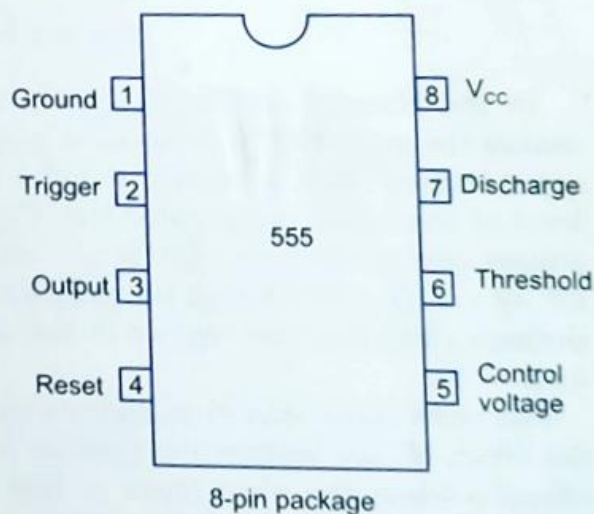
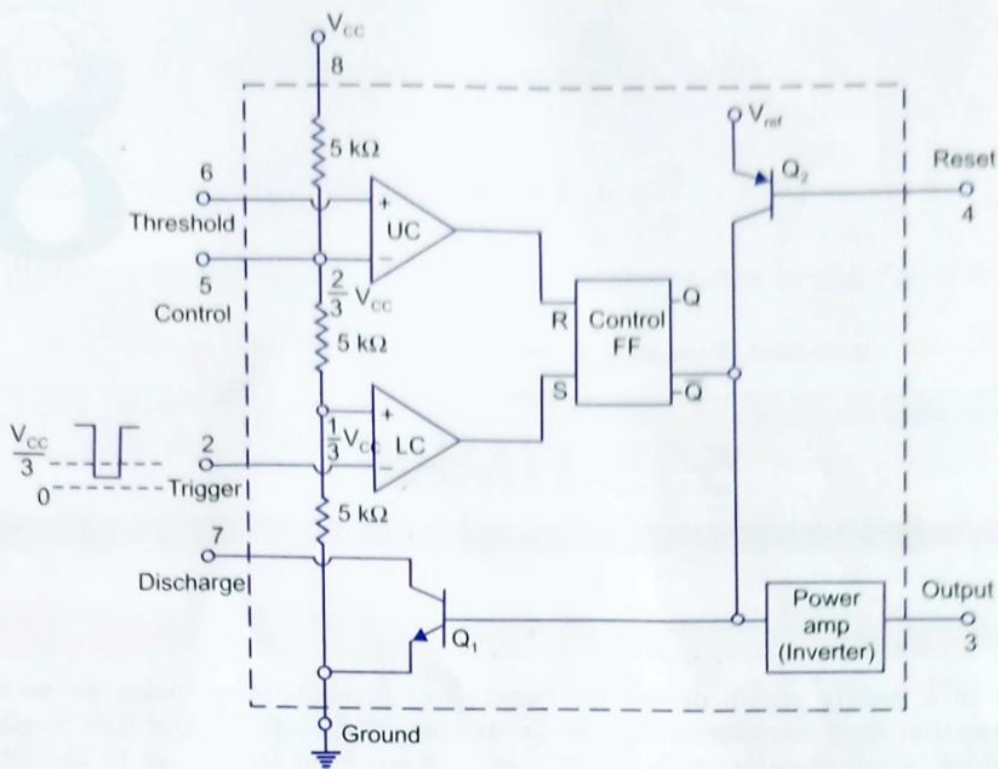

Fig. 8.1 Pin diagram
Fig. 8.2 Functional diagram of 555 timer
Figure 8.1 gives the pin diagram and Fig. 8.2 gives the functional diagram for 555 IC timer. Referring to Fig. 8.2, three $5\text{ k}\Omega$ internal resistors act as voltage divider, providing bias voltage of $(2/3)V_{CC}$ to the upper comparator (UC) and $(1/3)V_{CC}$ to the lower comparator (LC), where V_{CC} is the supply voltage. Since these two voltages fix the necessary comparator threshold voltage, they also aid in determining the timing interval. It is possible to vary time electronically too, by applying a modulation voltage to the control voltage input terminal (pin 5). In applications, where no such modulation is intended, it is recommended by manufacturers that a capacitor ($0.01\text{ }\mu\text{F}$) be connected between control voltage terminal (pin 5) and ground to by-pass noise or ripple from the supply.